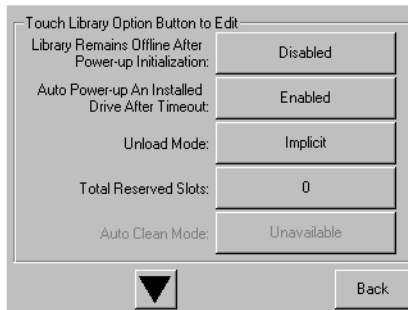

Figure 3-6. Total reserved slots screen
2. From the Library options screen, press the ▼ to scroll to the screen that contains the Total Reserved Slots option (see Figure 3-6).